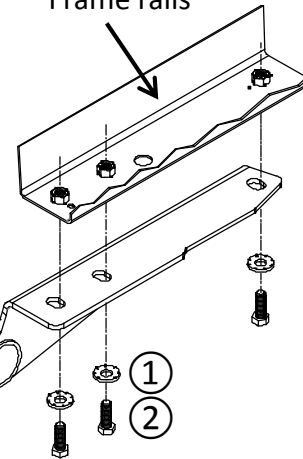

Figure 1
- 3. Install hitch** – raise the hitch into position and carefully slide it over passenger side exhaust pipe first. Loosely install M12 bolts ② and conical washers ① to the hitch, see **Figure 1**.